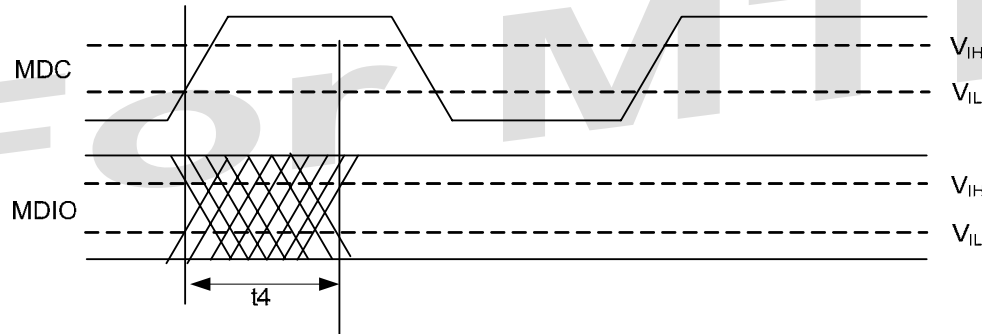

Figure 24. MDIO Sourced by RTL8214FC-VC (Slave)
- The timing characteristic  $t_4$  (Figure 24) of the Slave (RTL8214FC-VC) are provided by the RTL8214FC-VC when the RTL8214FC-VC sources the MDIO signal (Read command)